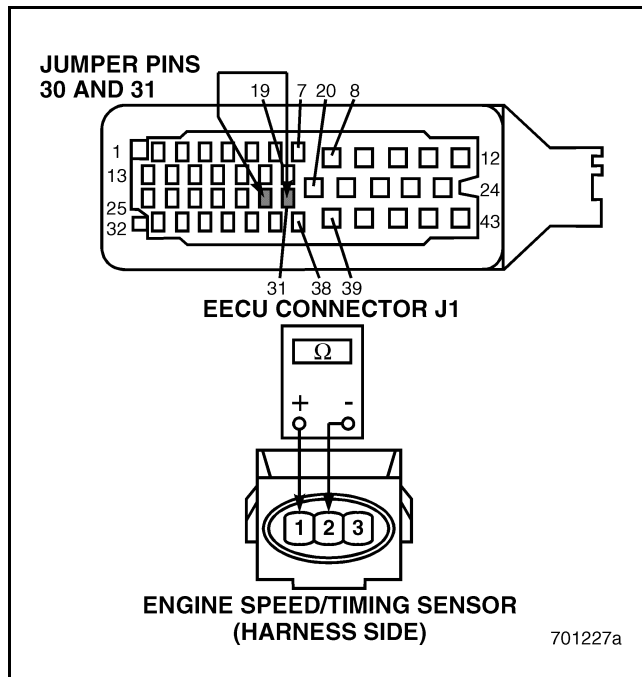

Figure 361
5. Check for continuity between pins 1 and 2 on the harness side of the Engine Speed/Timing (RPM/TDC) Sensor connector (see Figure 361).